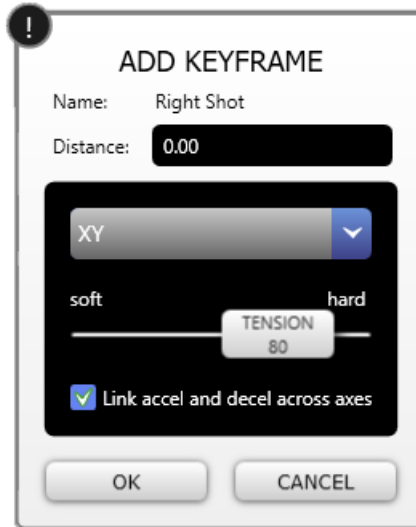

Figure 40 - ADD KEY FRAME Dialog Box with XY Axis Selected
- a. In the axis list, select the **XY** axis (Figure 40).